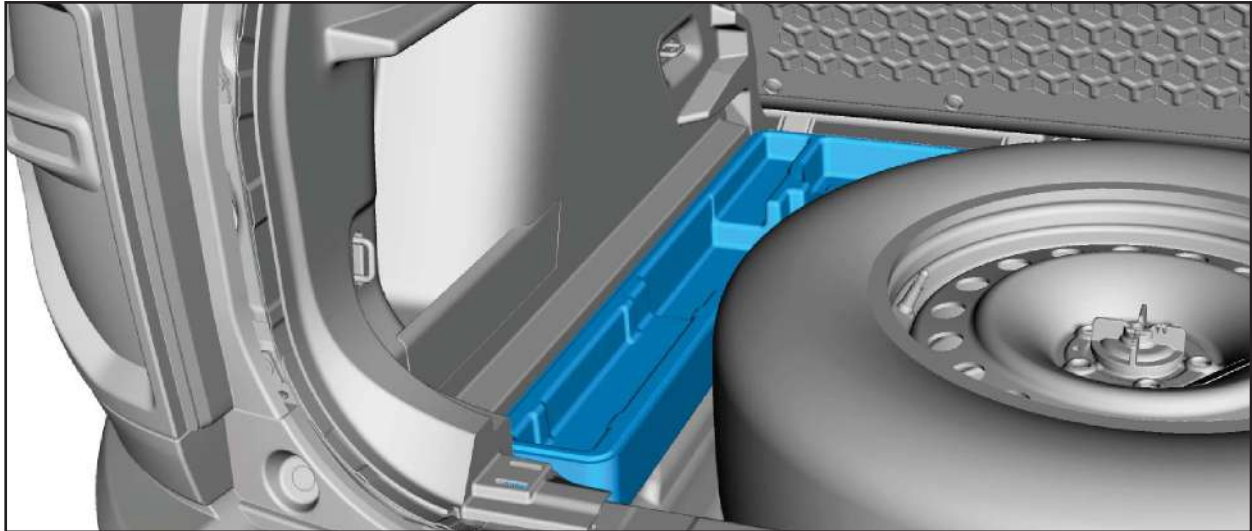

FIGURE 21
21. Remove the LH floor storage bin. See Figure 21.